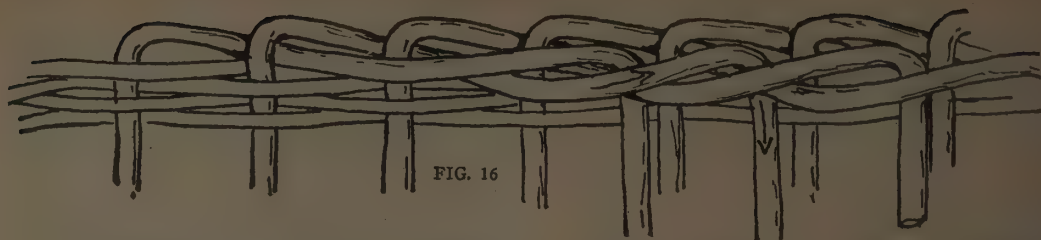

FIG. 16
- (b) Lay each spoke over the next two spokes at the right, and down on the basket (Fig. 16).